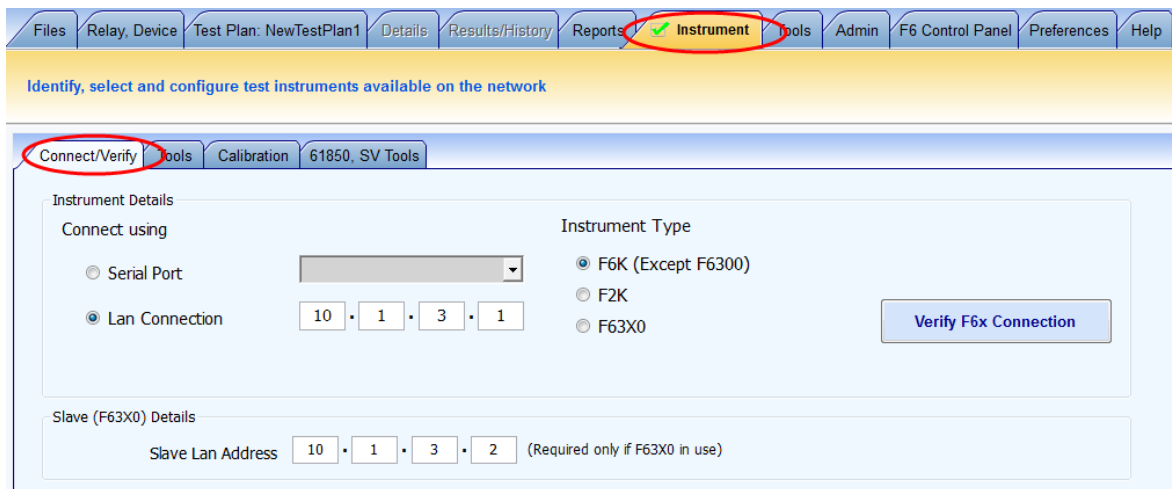

Figure 4. Connect to the F6150 instrument
- 16) Navigate to Instrument > Connect, Verify (format is “top tab > bottom tab;” see Figure 4)